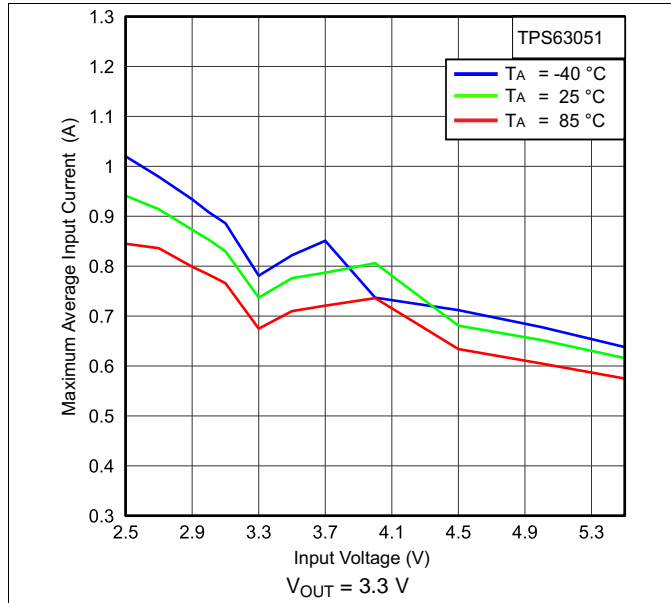
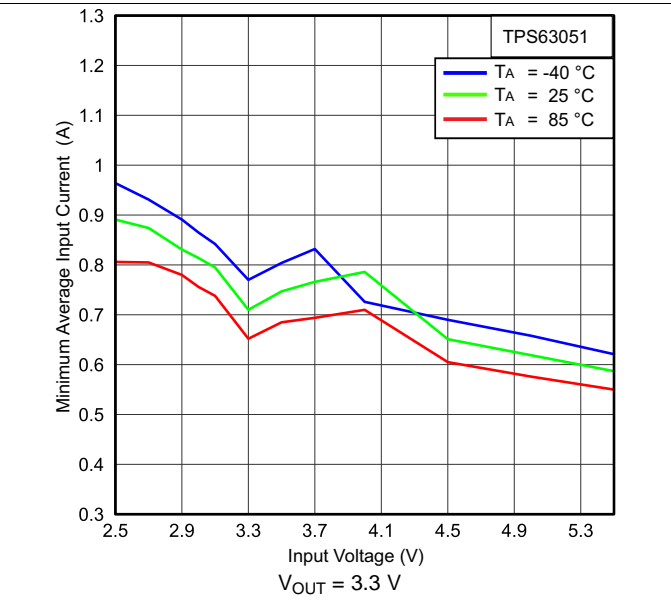

Figure 1. Maximum Average Input Current vs Input Voltage
Figure 2. Minimum Average Input Current vs Input Voltage
(1) For minimum and maximum output current in a specific working point see Figure 1 and Figure 2; and Equation 1 through Equation 4.
(2) Conditions: $T_J = -40^\circ\text{C}$ to 85°C
(3) Conditions: $f = 2.5\text{ MHz}$, $L = 1.5\ \mu\text{H}$, $C_{OUT} = 10\ \mu\text{F}$
The TPS6305x devices have an internal user programmable current limit that monitors the input current during start-up. This prevents high inrush current protecting the device and the application. During start-up the input current does not exceed the current limit that is set by I_{LIM0} pin and I_{LIM1} pin. Depending on the logic level applied at these two pins, switching between four different current limit-levels is possible. The variation of those values over input voltage and temperature is shown in Figure 1 through Figure 2. Adjusting the soft-start time further using the soft-start capacitor is possible.
Given the curves provided in Figure 1 through Figure 2, calculating the output current in the different condition in boost mode is possible using Equation 1 and Equation 2 and in buck mode using Equation 3 and Equation 4.
- I_{IN} = Minimum average input current (Figure 2 to Figure 2)